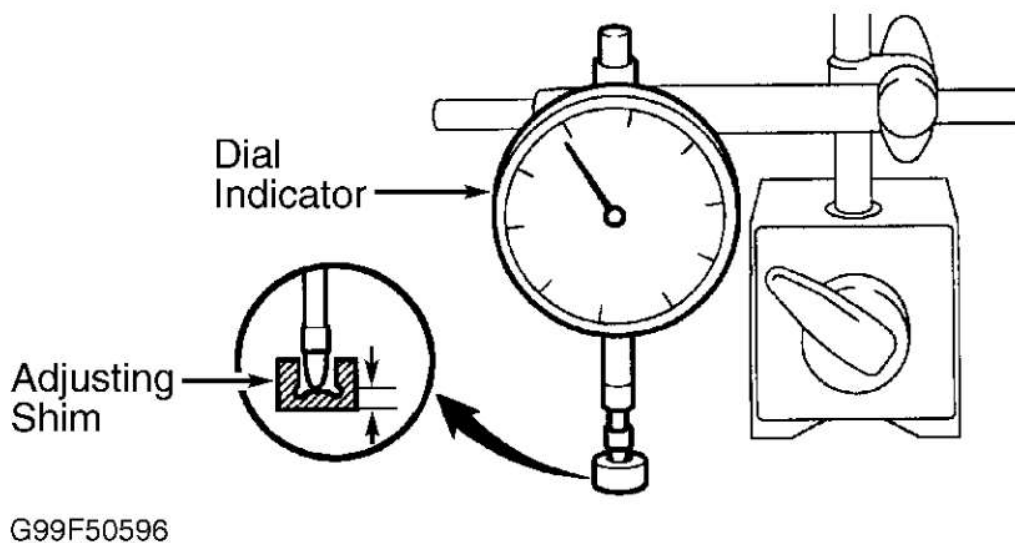

Fig. 21: Measuring Adjusting Shim Thickness (Celica 1.8L 2ZZ-GE)
11. Using dial indicator, measure thickness of removed adjusting shim. See **Fig. 21** . Using thickness of used